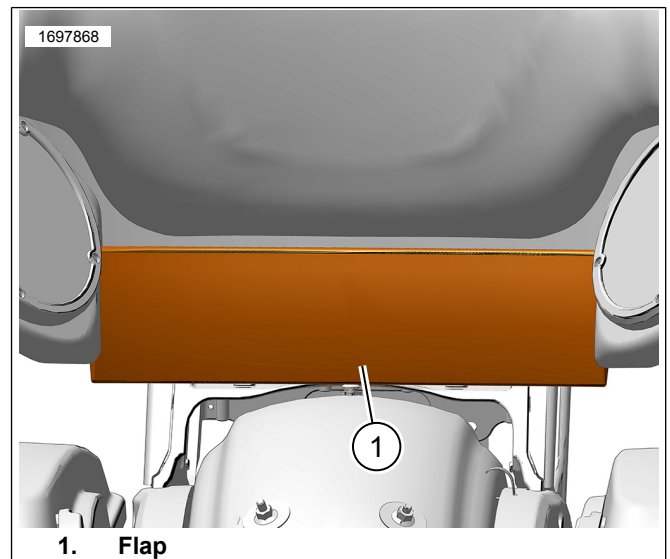

Figure 9. Flap
- 1. See Figure 9. Lift flap (1) to gain access to mounting area.